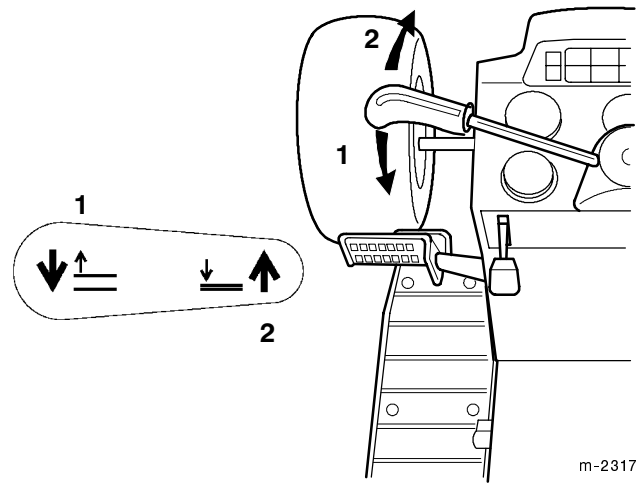

Figure 12
Depending on your tractor model, it will have either a power or a manual lift lever (Fig. 12 and 13) to raise and lower attachments.
2. Push the lift lever up to raise the attachment lift (Fig. 12).
2. Push the lift lever down to lower the attachment lift (Fig. 12).